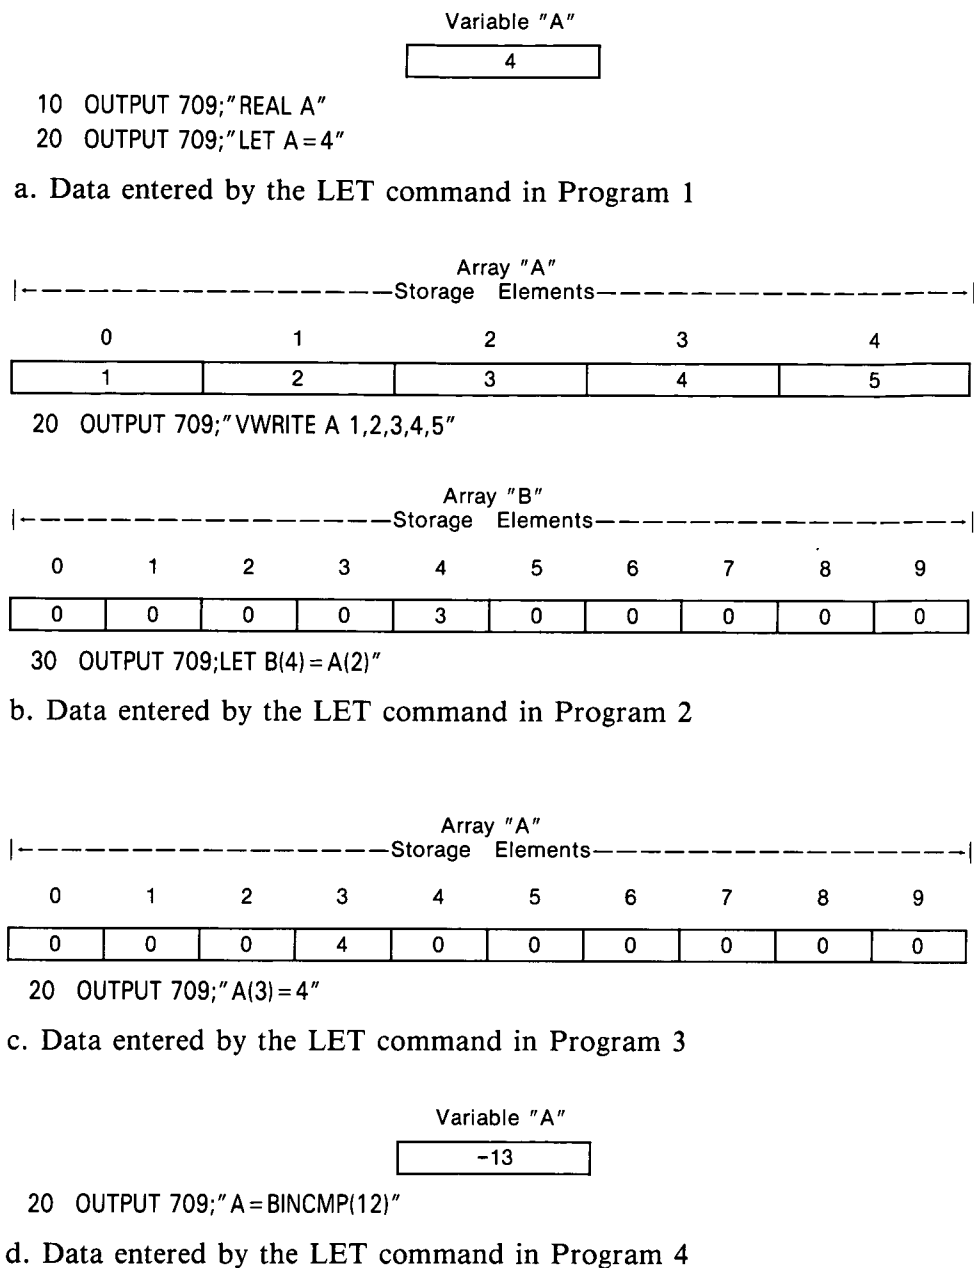

Figure 6-6. Entering Data into Memory with the LET Command
In program 1, a **REAL** variable (**A**) is declared in line 10. In line 20, the value of 4 is assigned to **A**. In program 2, the **DIM** command declares **REAL** arrays **A** and **B** with maximum indexes of 4 and 9 respectively. In line 20, the **VWRITE** command writes data to array **A**. Line 30 copies the value (3) from element 2 in array **A** to element 4 in array **B**. In program 3, an **INTEGER** array (**A**) with a maximum index of 9 is declared. In line 20, the **LET** command assigns the number 4 to the fourth element (starting index is 0) of array **A**. Recall that the **LET** header is optional, and, therefore, does not have to be entered. In program 4, an **INTEGER** variable is declared in line 10. In line 20, the binary compliment of 12 is evaluated and the result is assigned to variable **A**. Figure 6-6 represents the data stored in the variables and arrays specified in programs 1 through 4.